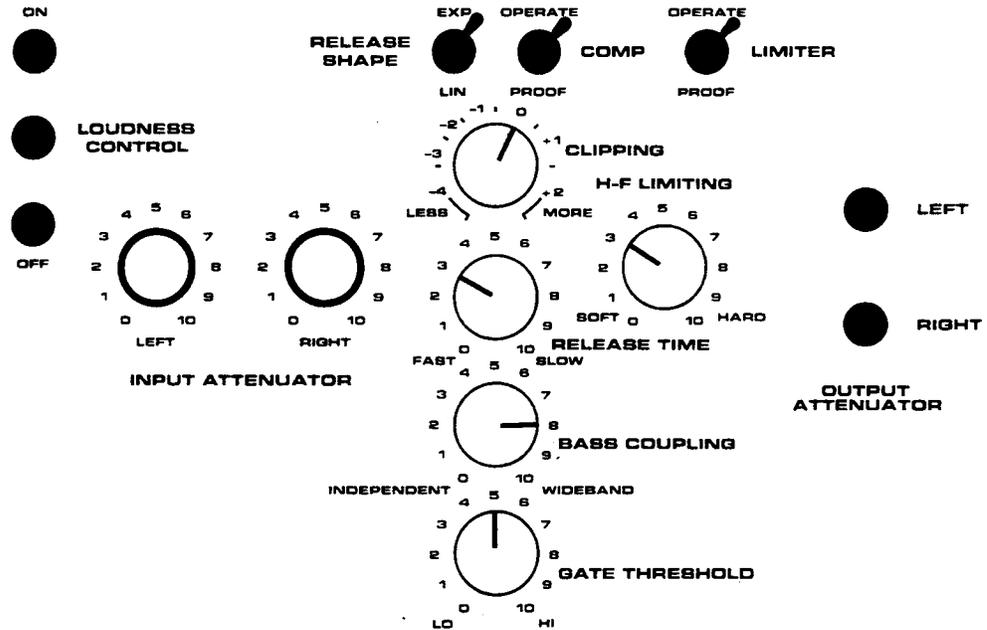

Fig. 4-5: RECOMMENDED INITIAL CONTROL SETTINGS
These listening tests are made with OPTIMOD-TV set up according to our **Recommended Initial Control Settings** in Fig. 4-5. They are intended to detect obvious problems with audio quality which must be resolved before final adjustments are made. Once initial listening tests are passed, you can proceed to adjust OPTIMOD-TV setup controls according to subjective requirements.
- a) Adjust OPTIMOD-TV controls according to Fig. 4-5. Do not adjust the INPUT ATTEN or OUTPUT ATTEN controls at this time. If you have a dual-chassis system, DO NOT READJUST THE MAIN CHASSIS INPUT ATTEN CONTROLS UNDER ANY CIRCUMSTANCES!